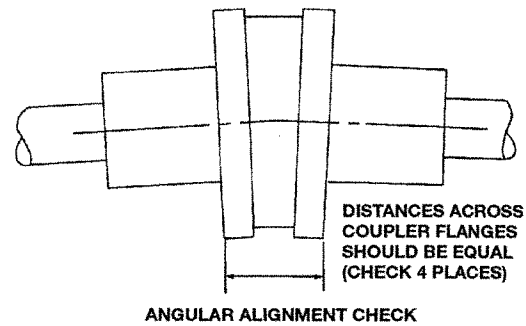

FIGURE 7B
1. Check angular misalignment using a micrometer or caliper. Measure from the outside face of one flange to the outside face of the opposite flange at four points  $90^\circ$  apart. Refer to figure 7B. **DO NOT ROTATE COUPLER.** Misalignment up to  $\frac{1}{64}$ " per inch of coupler radius is permissible.